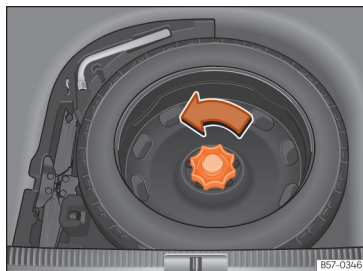

Fig. 310 Spare wheel: floor panel raised.
- Turn the thumb wheel anti-clockwise  **Fig. 310**.
- Turn the thumb wheel anticlockwise »» Fig. 310¹⁾.